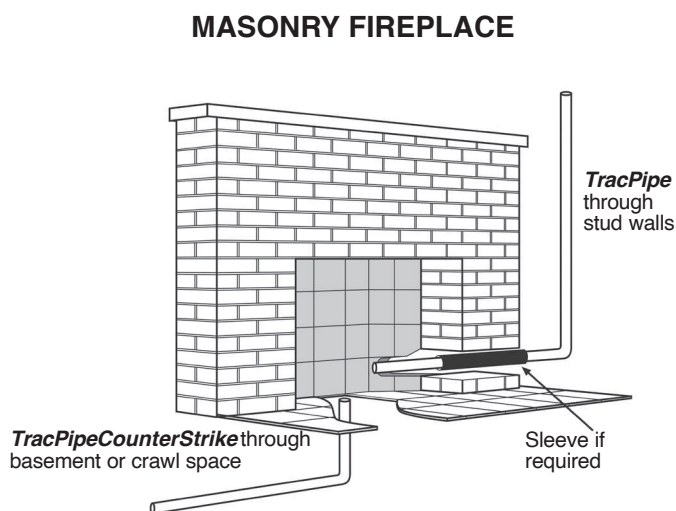

Figure: 4-45
6. The FGP-FPT may be used in all applications where it is desirable not to penetrate the enclosure with tubing (**Figure 4-45**).